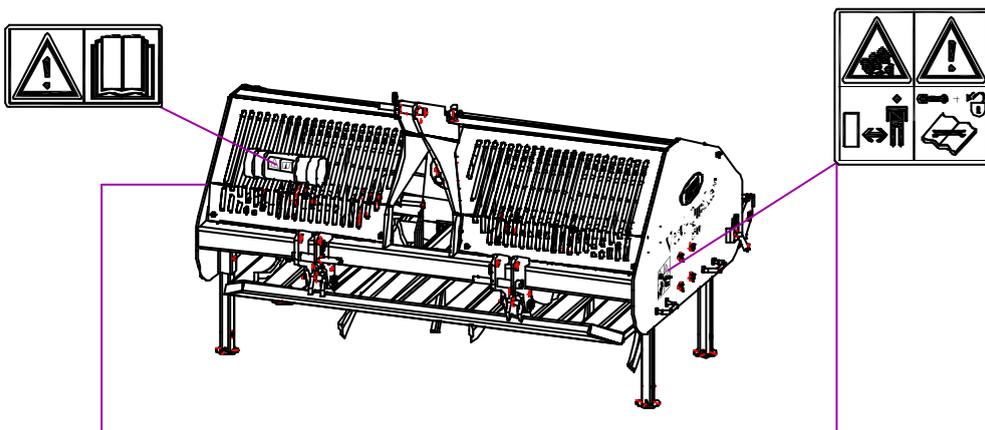

Fig. 5
On both sides of the Verti-Quake[®], decals (Fig. 5) are applied to the sideboard showing these warnings. Make sure these safety decals are always clearly visible and legible. Replace them if they are damaged.
(7) Placement of safety decals. (Fig 5.)